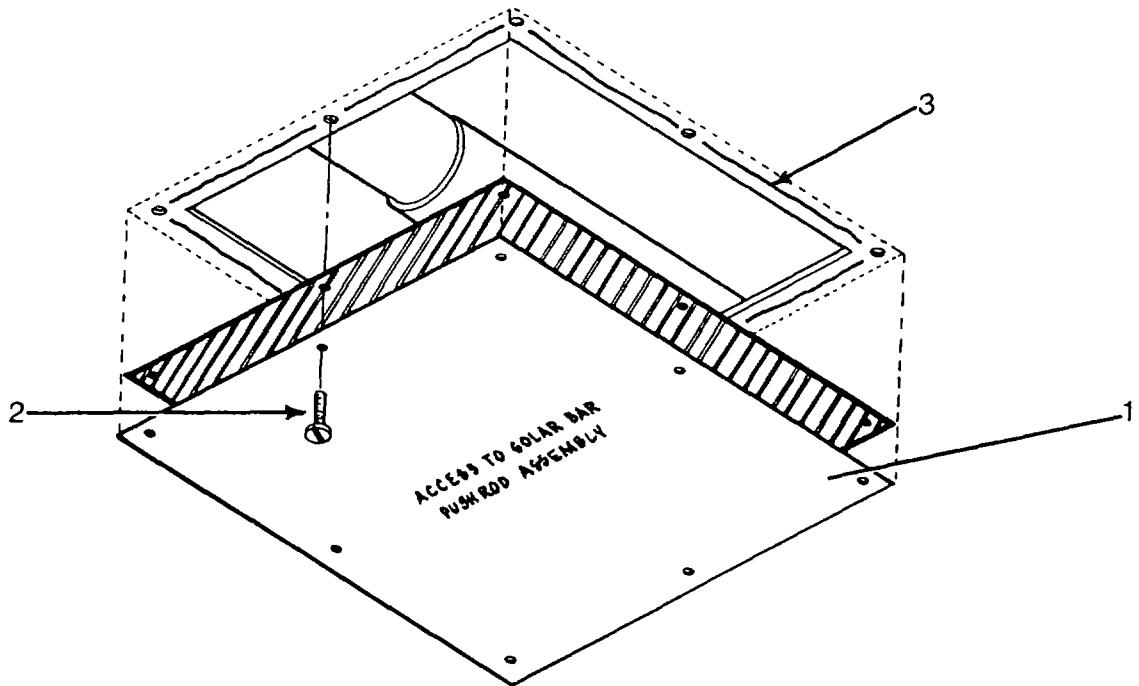

Figure 4-9. Solar Bar Push Rod Access Plate
c. Repair by replacing access plate (1) to solar bar push rod. (See figure 4-9.)
- (1) Remove mounting screws (2) from access plate and remove access plate (1) from AC ducting assembly (3).
- (2) Align replacement access plate (1) over holes in AC ducting assembly (3) and secure in place with mounting screws (2).